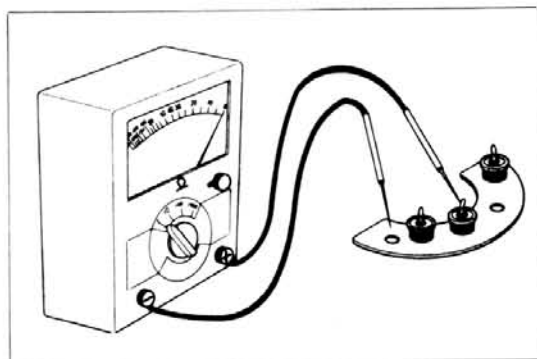

Fig. 5-21 Rectifier Test
2. Rectifier holder negative side. Connect the tester (-) lead onto the rectifier holder and (+) lead onto the rectifier lead as shown in figure 5-21, and check the resistance. Good rectifier will indicate no resistance, and if it indicates high resistance, the rectifier is opened. Next, turn the polarity of the tester, and check again. If the needle of the rester moves in either polarity, the rectifier is shorted. If the needle does not move in either polarity, the rectifier is opened, and should be replaced. If any one of the negative side rectifier is found defective, always replace the negative side rectifiers with the holder assembly.